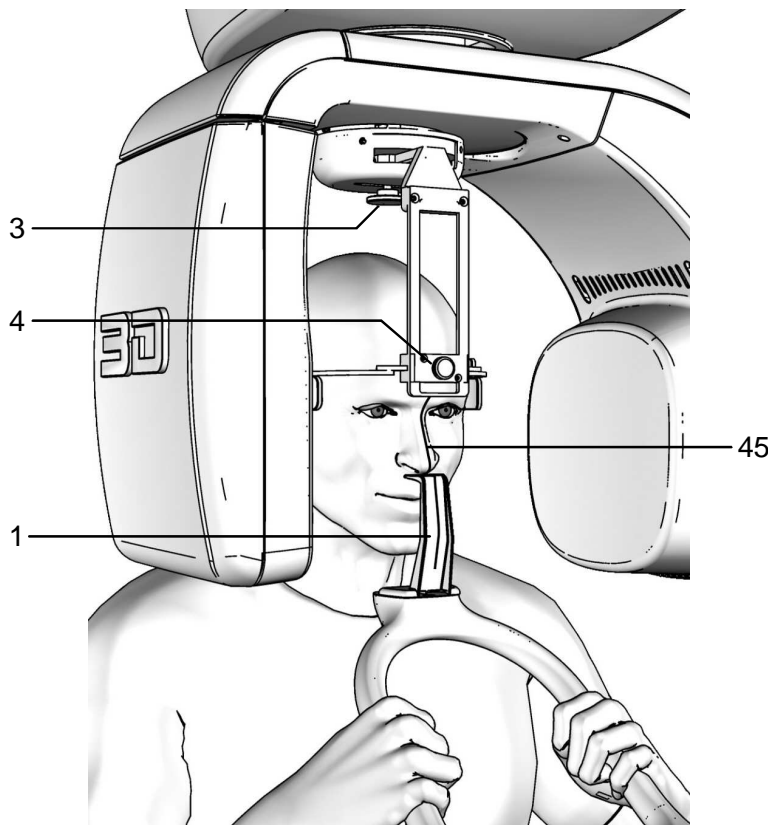

Figure 22 – TMJ closed mouth positioning
4. Verify that the temple clamp device is in the central position (Figure 14), and if necessary move it using the appropriate control on the top of the support (3 - Figure 22).
5. Place the patient in temple clamp by placing the chin on the surface of the relevant support (Figure 22); the hands should rest on the front handgrips.
8. Press the key "Centring devices ON" (14)
Using the laser of the midsagittal plane as a reference only, place the patient's head so that the beam falls on the corresponding anatomical reference (Figure 22).
9. Place the temple clamp in contact with the patient's head by means of the appropriate knob (4 - Figure 22).